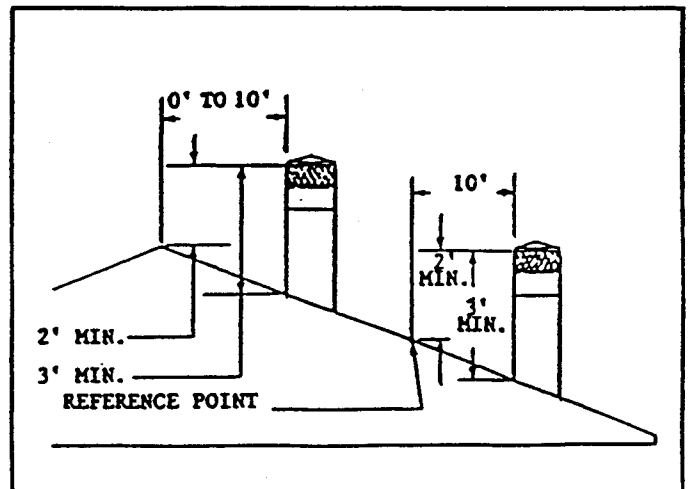

FIGURE 9
WARNING: Major U.S. building codes specify minimum chimney and/or vent height above the roof top. These minimum heights are necessary in the interest of safety. These specifications are summarized in the Ten Foot Rule (See Fig. 9). The key points of this rule are:
2. If a horizontal distance from the edge of the vent or chimney to the peak of the roof is more than 10 feet, a vent or chimney height reference point is established that is on the surface of the roof a distance of 10 feet from the edge of the vent or chimney in a horizontal plane. (See Fig. 9) The top of the vent or chimney must be at least 2 feet above this reference point, but never less than 3 feet in height above the highest point where it passes through the roof.